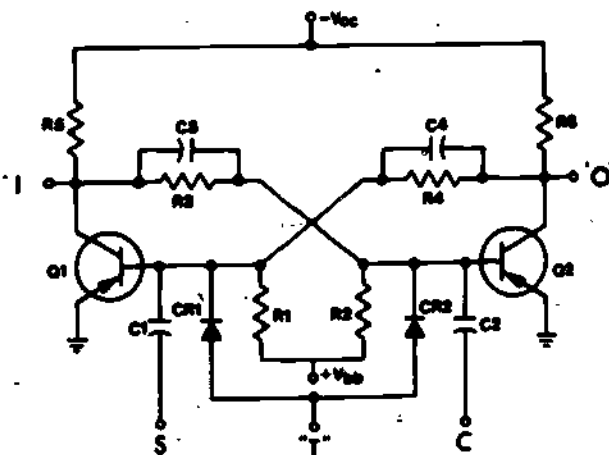
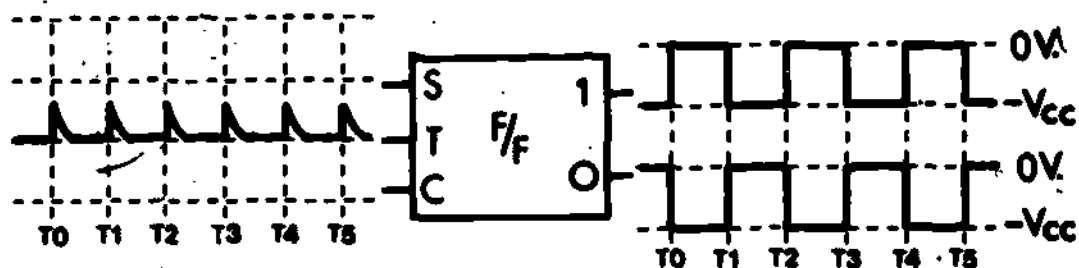

Figure 14
Figure 15
Some flip-flops use a third input lead. This third input lead is called a "Toggle" (T) input. Every time we apply a pulse to the "T" input, the flip-flop will change states. Refer to Figure 14.
On the block diagram below, which represents the Multivibrator of Figure 14, the Toggle (T) input is as shown in Figure 15.
Now let's see what happens when triggers are applied to all three inputs of the multivibrator shown in Figure 14. In Figure 16 assume the flip-flop is in the clear state ("1" output is 0.0 volts, "0" output is high) prior to T0.